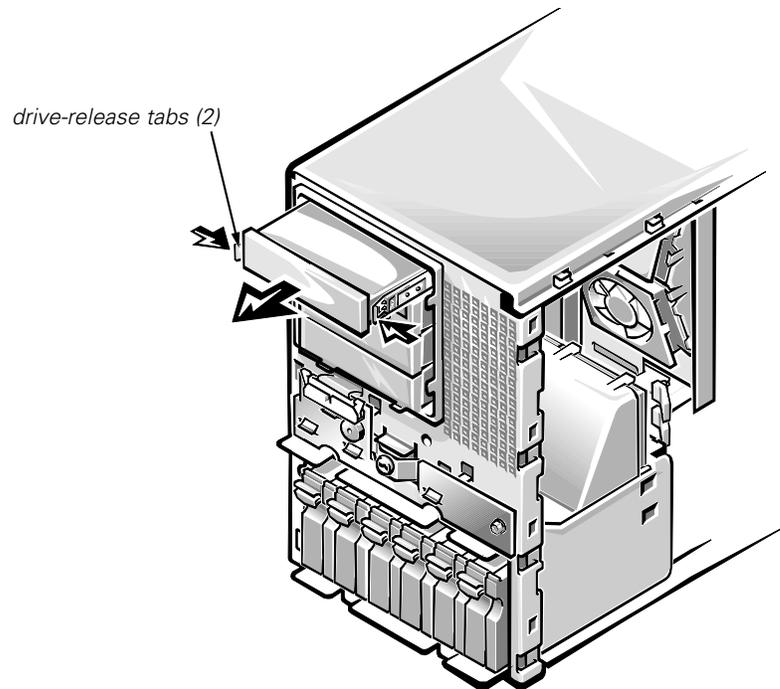

Figure 4-6. Externally Accessible Drive Removal
- 1. Press the two drive-release tabs toward the center of the drive, and slide the drive out the front of the bay (see Figure 4-6).**